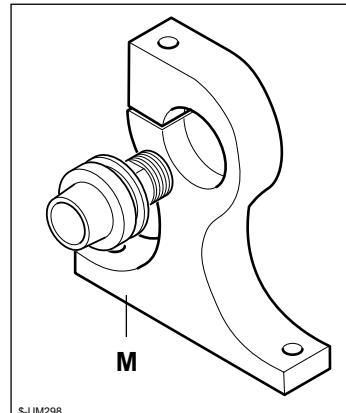

Fig. 5b
- 36mm open-ended spanner or clamp M (Fig. 5b)
- Hold the tool holder spindle still with the open-ended spanner or with the clamp M (Fig. 5b) and tighten the ring nut fully home with the C spanner